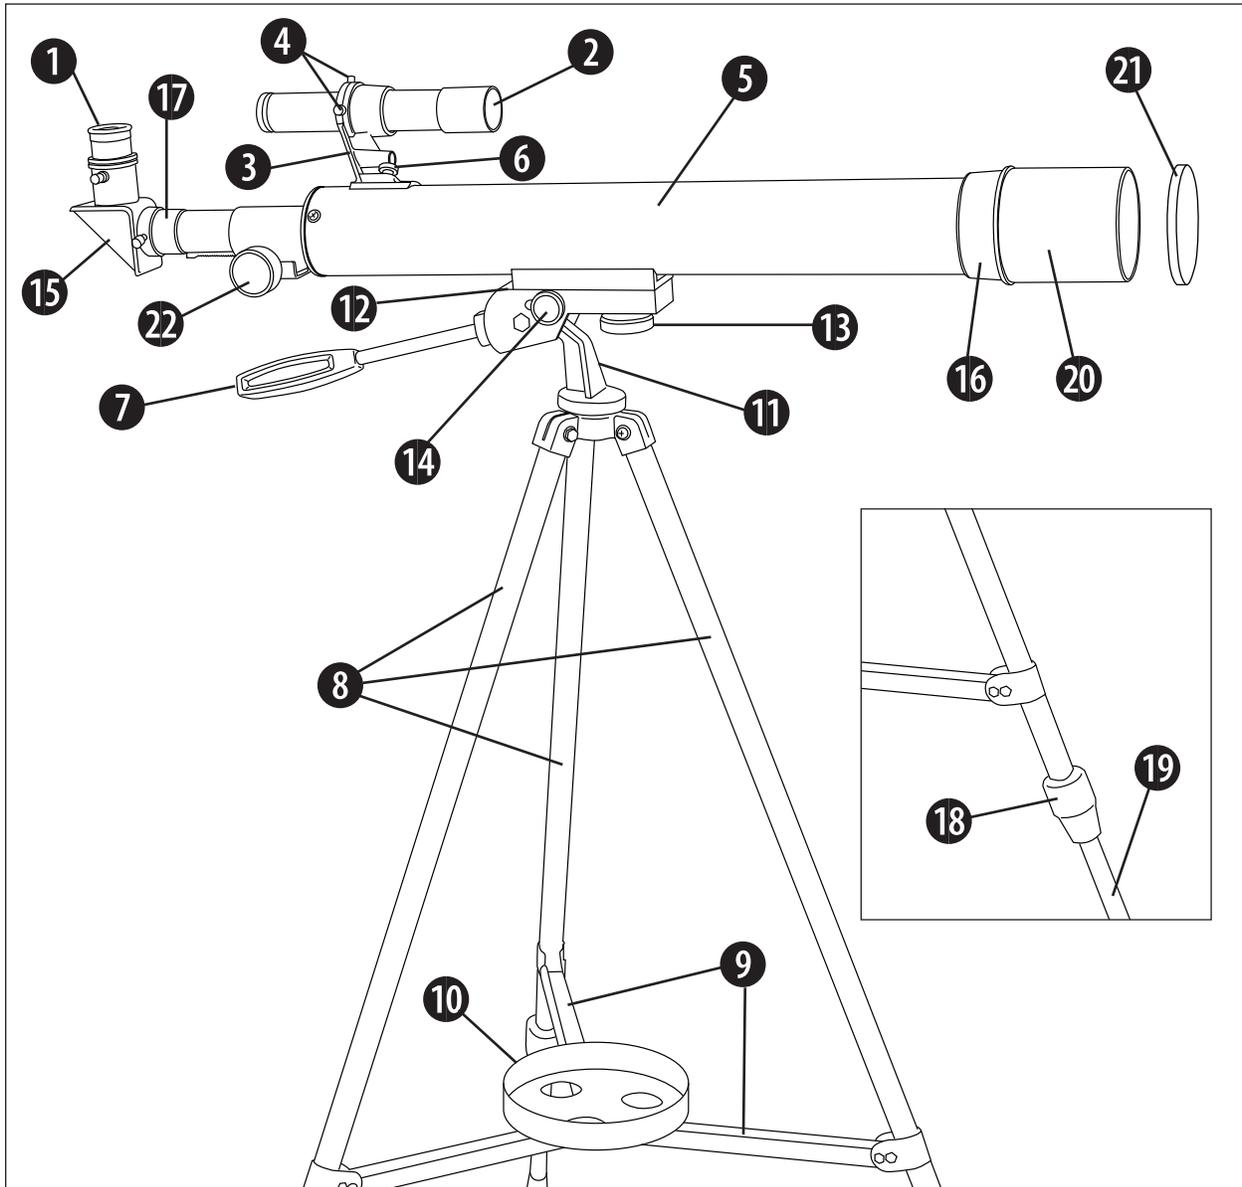

Fig. 1: Meade 50AZ-P 2" Altazimuth Refracting Telescope
STANDARD EQUIPMENT (Refer to Fig. 1)
2. Spread the three tripod legs (8, Fig. 1) evenly apart and insert the accessory tray (10, Fig. 1) in the hole at the center of the leg brace supports (9, Fig. 1).
3. Snugly thread-in the altitude locking control handle (7, Fig. 1) into the altazimuth mount (11, Fig. 1) at the optical-tube-to-mount attachment point (12, Fig. 1). Thread-in the optical-tube-to-mount attaching knob (13, Fig. 1) until snug, and then tighten the optical-tube-to-mount lock knob (14, Fig. 1).
4. Attach the viewfinder (2, Fig. 1) and viewfinder bracket (3, Fig. 1) by unthreading the two viewfinder bracket attaching nuts (6, Fig. 1) that are located on the tube near the focuser and placing the viewfinder bracket (with the eyepiece-end of the viewfinder facing the focuser of the telescope) over the two protruding threaded studs. Then replace the two viewfinder bracket attaching nuts to secure the bracket to the optical tube.
5. Insert the diagonal mirror (15, Fig. 1) into the eyepiece holder (17, Fig. 1) and the wide-field H 25mm eyepiece (1, Fig. 1) into the diagonal mirror. Secure each in place with a moderate tightening of the respective thumbscrews.
6. Extend the sliding leg extension (19, Fig. 1) portion of the adjustable height tripod to the desired length on all three legs by rotating the sliding leg extension collar (18, Fig. 1) counterclockwise to release the inner sliding leg. When you achieve the desired height, lock the tripod leg by rotating the sliding leg extension collar clockwise until it is snug. Do not over-tighten the locking collars as they can become damaged.
To move the telescope on the mount, unlock the altitude locking control handle (7, Fig. 1) by turning the handle counterclockwise one complete turn. Hold the handle while moving the telescope in altitude and/or azimuth. When finished, lock the altitude control handle by tightening the handle, turning clockwise. Tip: By keeping the altitude locking handle slightly tight, the telescope can still be moved in altitude without running the risk of having the telescope “flip” in the up or down movement.
The 5 x 24mm viewfinder (2, Fig. 1) is a low-power, wide-field sighting device that, once aligned, will allow you to point the telescope with greater precision. Take note that when you look through the viewfinder, you will see a crosshair with images that will be upside-down; this is normal.
1. Remove the lens cap (21, Fig. 1) of the optical tube assembly. Place the H 25mm eyepiece in the diagonal mirror and point the optical tube assembly (5, Fig. 1) at some well-defined, distant land object (e.g. the top of a distant telephone pole). Note: Images are either backwards or upside-down, depending on the rotation angle of the diagonal mirror; this is normal. It is recommended that you choose an object that is as distant as possible, so that the viewfinder alignment will be accurate enough to point the telescope at individual planets and stars during astronomical observations.
2. Look through the viewfinder (2, Fig. 1) and tighten or loosen, as appropriate, the viewfinder bracket’s three collimation screws (4, Fig. 1), until the crosshairs of the viewfinder are precisely centered on the same object already centered in the telescope’s H 25mm eyepiece. When finished, tighten the viewfinder’s three collimation screws to a firm feel so that it remains in alignment.
2. To center an object in the main telescope, first use the aligned viewfinder to find the object you wish to observe. If necessary, slightly loosen the altitude locking control handle (7, Fig. 1), to re-position the telescope so that the desired object can be centered in the viewfinder. When the object is centered in the viewfinder, it should then, also, be somewhere in the main telescope’s field of view. Next, using the 25mm eyepiece, center the object in the main telescope’s field of view, and sharply focus the image by turning the focus knob (22, Fig. 1).
3. If you are observing an astronomical object (the Moon, a planet, star, etc.) you will notice that the object will begin to move slowly through the telescopic field of view. This movement is caused by the rotation of the Earth and makes an object appear to be moving in the telescope’s field of view. To keep astronomical objects centered in the field, simply move the telescope up or down, or side-to-side (vertical and/or horizontal), using the altitude control handle (7, Fig. 1) as appropriate. At higher powers, astronomical objects will seem to move through the field more rapidly.
With the 3.5x Barlow lens, an eyepiece’s power is multiplied 3.5 times. For example, the H 25mm (25X) eyepiece, when used in conjunction with the 3.5x Barlow lens, produces a magnification of 88X. The H 12.5mm (50X) eyepiece produces a magnification of 175X when used with the Barlow lens. To use the 3.5x Barlow lens, remove the diagonal mirror from the eyepiece holder (17, Fig. 1), then insert the 3.5x Barlow lens, followed by the diagonal mirror (15, Fig. 1) and eyepiece (1, Fig. 1). Refocus until the image is sharp.
As with any quality optical instrument, lens surfaces should be cleaned as infrequently as possible. A little dust on the surface of the objective lens causes negligible degradation of image quality and should not be considered reason to “clean” the lens. When lens cleaning does become necessary, use a camel’s hair brush or compressed air to gently remove dust. Wipe only with a soft, clean cloth, applying as little pressure as possible to avoid scratching glass surfaces. Note: Remove the dew shield/lens shade (20, Fig. 1) to access the objective lens (16, Fig. 1).